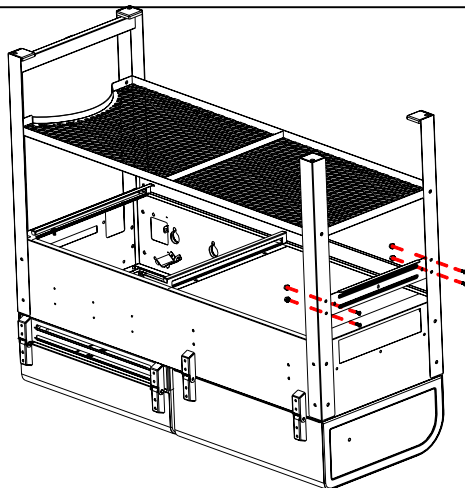

Fig. 8
Refer to Fig. 8 and Place the Fire Box Support Brace **BETWEEN** the Legs on the **RIGHT** side of the Cabinet, so that the LEDGE is at the TOP and facing through the Legs. Fasten to **BOTH** legs with (2) M6x15 bolts and (2) M6 KEPS nuts on each Leg.